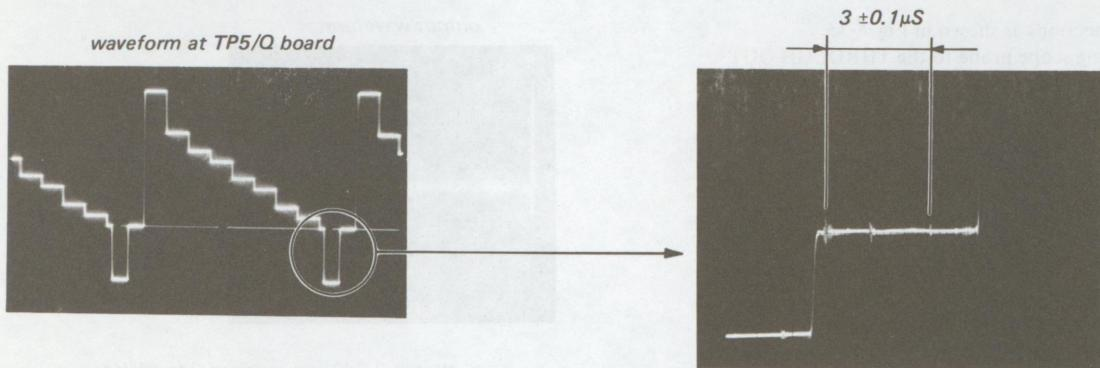

Fig. 5-37.
3. Adjust RV 5 on the Q board for a clamp pulse width of 3 μ s. (See Fig. 5-37.)